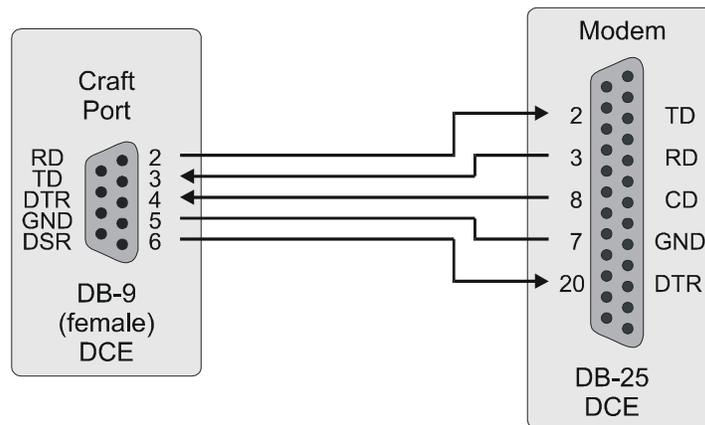

Figure 7. Front Panel Craft Port to Modem Connections
When connecting the RS-232 port to a modem, a null modem cable should be used. Ensure that the modem's Carrier Detect (CD) and DTR functions are enabled. This allows the modem connection to terminate properly when the AMU-912 drops Data Set Ready (DSR) and the unit logs off after the modem drops CD. The following connections are required to make the modem work correctly (Figure 7).